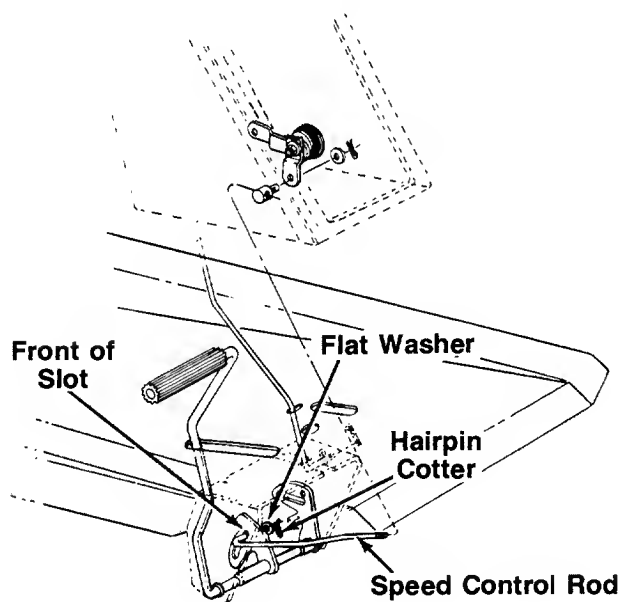

FIGURE 24.
7. Disconnect the speed control rod by removing the hairpin cotter and flat washer. See figure 24.
9. Adjust the rod by threading it in or out of the ferule until it is all the way to the front of the slot as shown in figure 24.